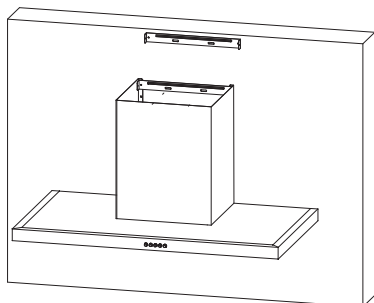

Fig.8
- Fit chimney installation plate. See Fig.8.